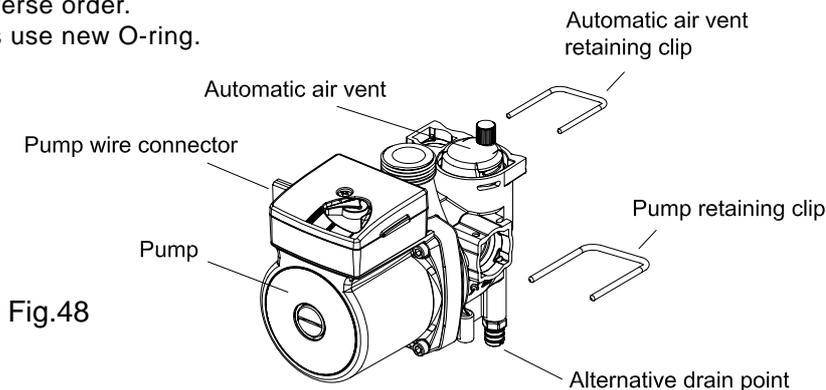

Fig.48
8.16 TO REMOVE/REPLACE PUMP (Fig.48)
8.17 TO REMOVE/REPLACE AUTOMATIC AIR VENT (Fig. 48)